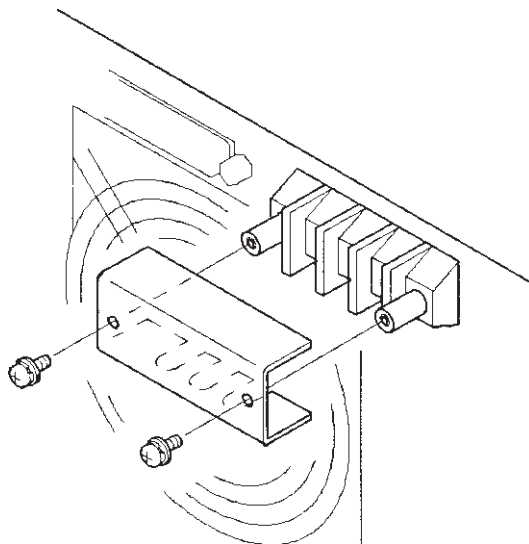

Fig. 1-10
4. Remove the load terminal cover (see Fig. 1-10).